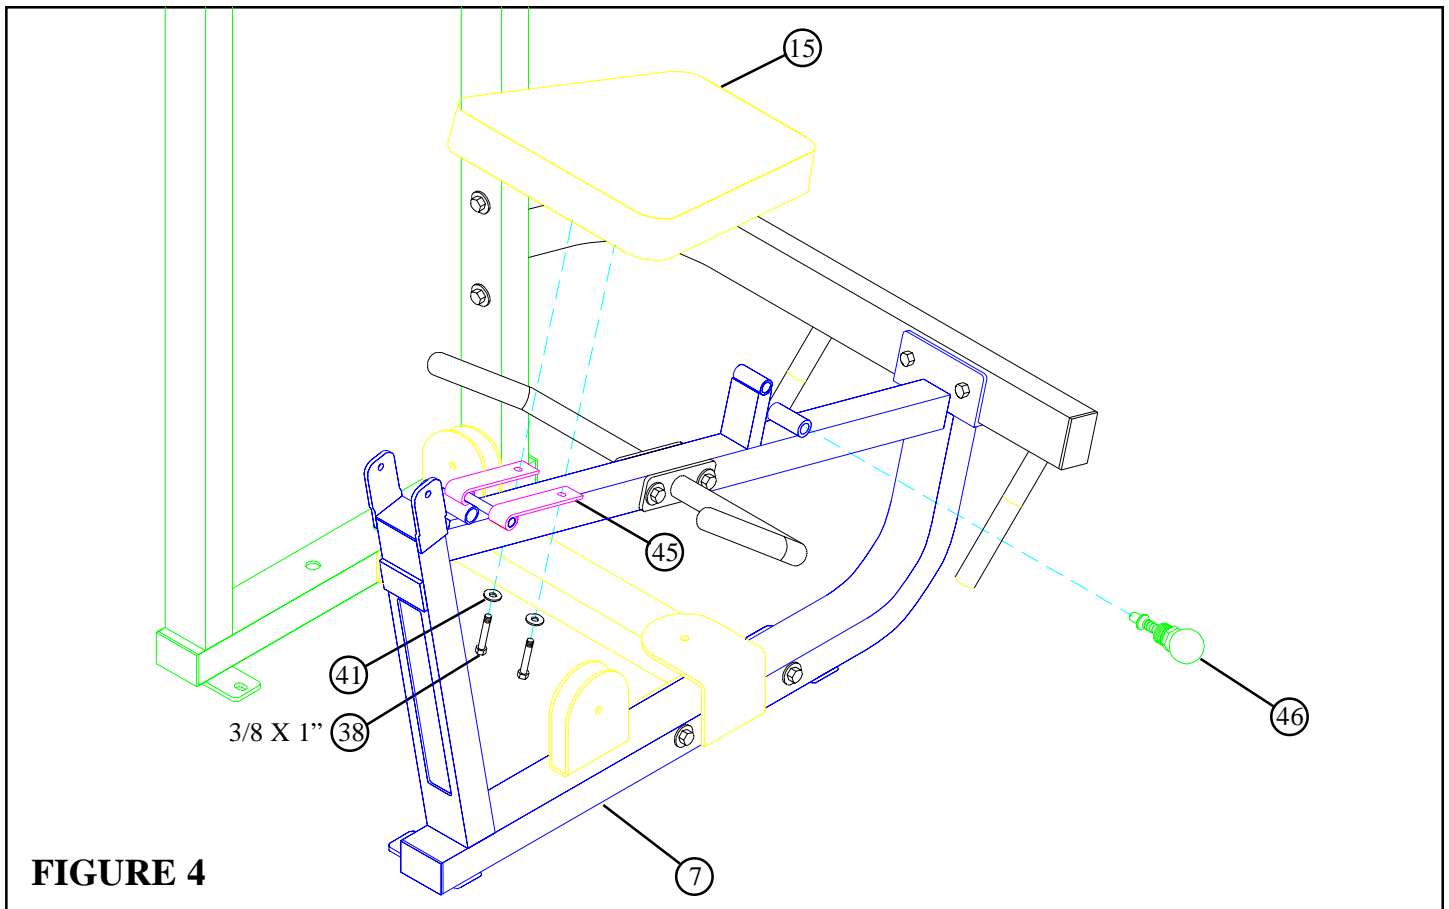

FIGURE 4
- **SECURELY** assemble SEAT PAD (15) to HINGE TABS (45) using two 3/8 X 1" BOLTS (38) and two 3/8" WASHERS (41). See FIGURE 4.
- **SECURELY** assemble one 1/2" SPRING PIN (46) to the BENCH FRAME (7) as shown in FIGURE 4.